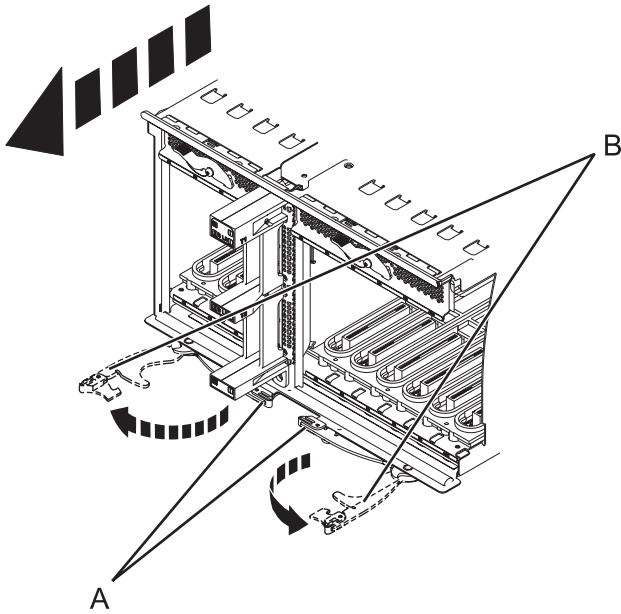

Figure 58. Removing the I/O system board
12. Squeeze the release latches (**A**) and pull the levers (**B**) out away from the system, as shown in Figure 58.